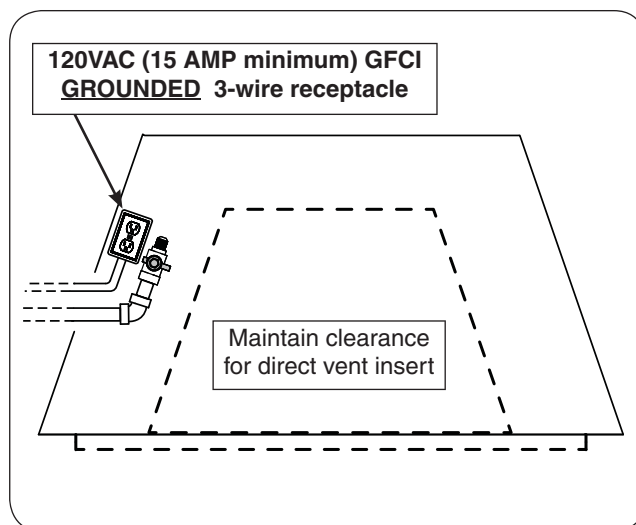

Fig. 24-2 Install electrical (receptacle)
1. Wire the receptacle as applicable into the vicinity of the fireplace (see Fig 24-2 for an example).